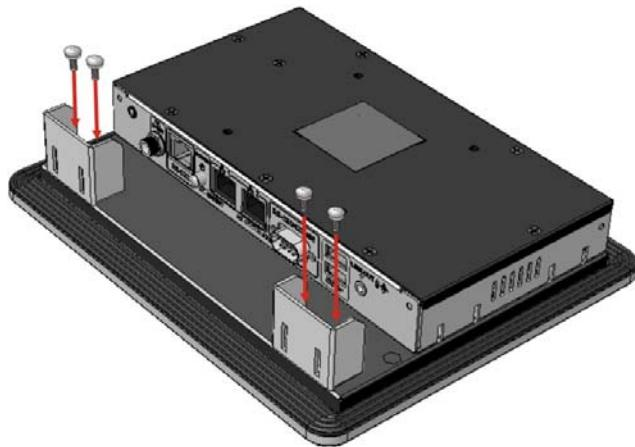

Figure 3-16: PPC-F08B-BT Mounting Bracket Installation
Step 1: Install two mounting brackets onto the rear panel (**Figure 3-16**).